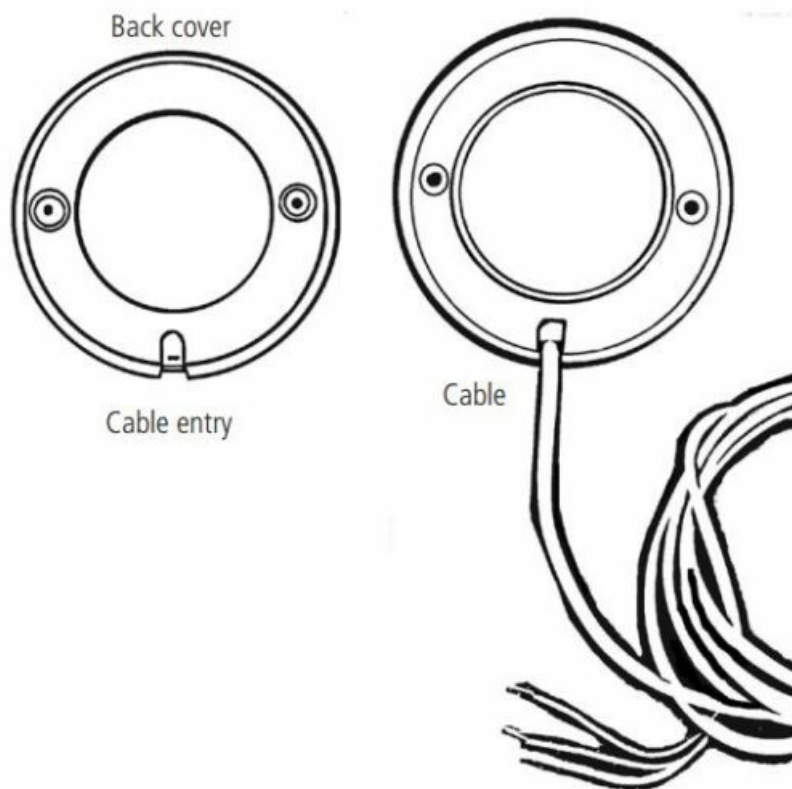
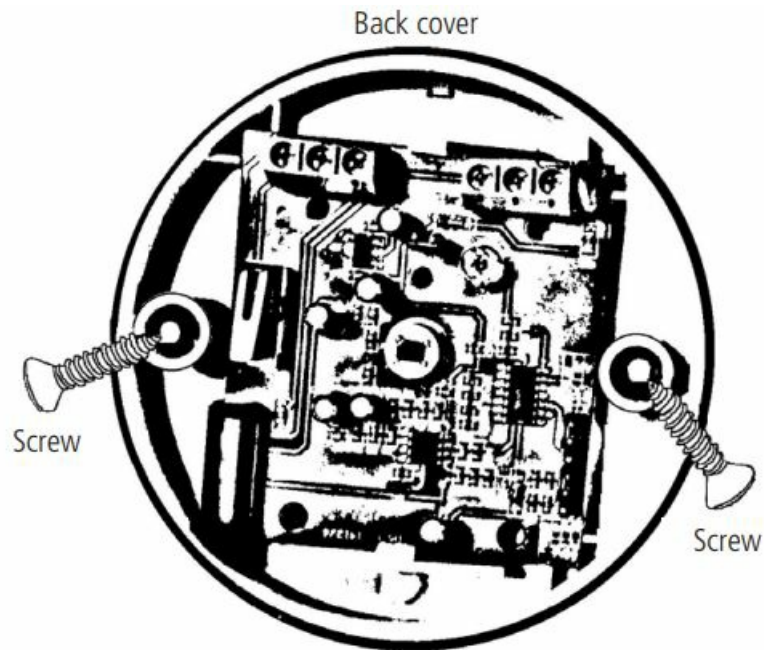

Figure 2
Figure 3
2. Pass the cable through the cable passage orifice in the back cover (Fig. 2);
3. Pass the cable through the orifice and connect it to the terminal block (item 1.3. Terminal block);
4. Attach the sensor in the ceiling, passing the screw through the holes in the back cover (Fig. 3).